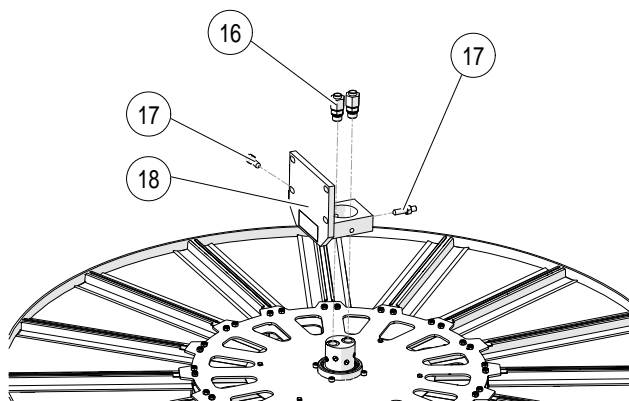

Fig. 6: Removing the Hydraulic Screw Fittings and Threaded Pins
- Install and stick the flange, hydraulic screw fittings and threaded pin (see Fig. 6).